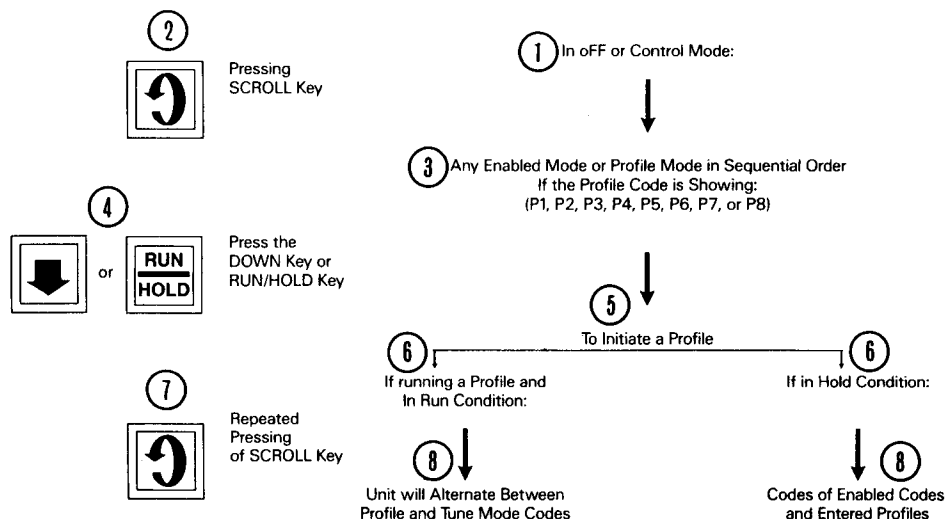

Figure 3-1.
- \* If the Off or Control Modes are entered, the profile is aborted. Attempting to enter any other selected mode will cause the unit to return to the profile in the hold condition. Therefore, to access any of the non-control modes, a profile must first be aborted. Figure 3-1 shows in flowchart form how to access different modes.